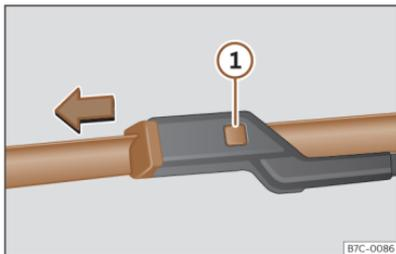

Fig. 179 Changing the windscreen wiper blades
- Press and hold release button >>> **Fig. 179** ① and pull gently on the wiper blade in the direction of the arrow.